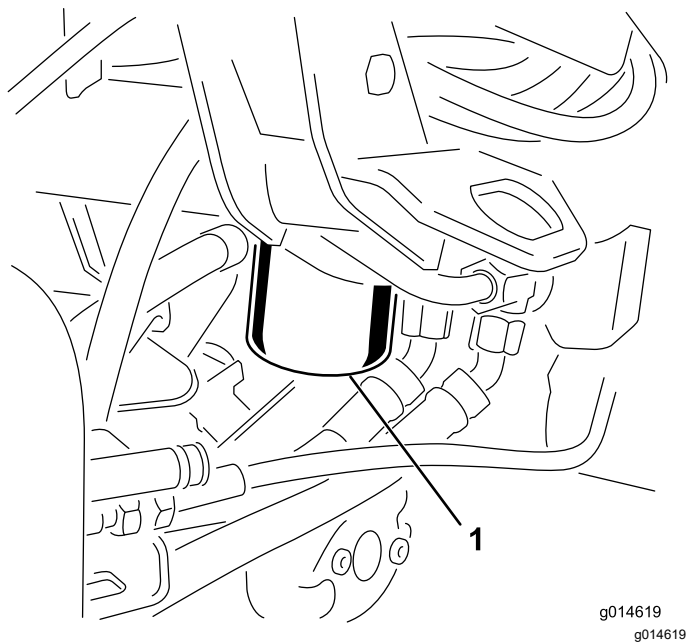

Figure 44
3. At the right side of the machine, align a drain pan under the hydraulic filter (Figure 44).
5. Remove the old hydraulic filter from the filter head and quickly install the new hydraulic filter (Figure 44) by turning it on by hand until the gasket contacts the filter head, then tighten the filter 3/4 turn further.